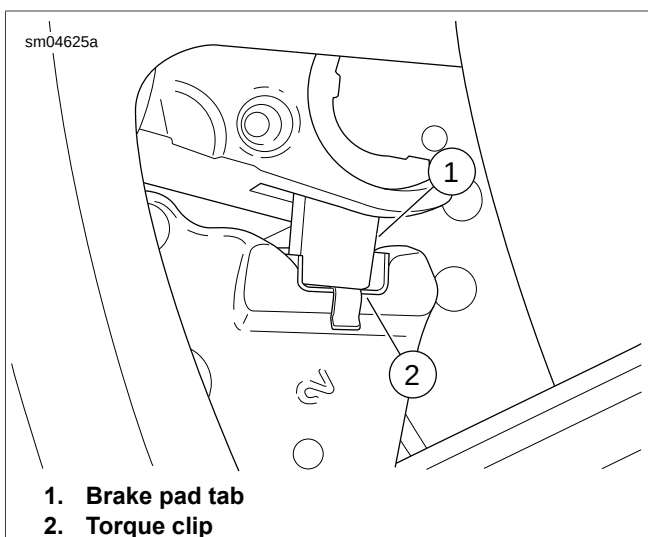

Figure 1-34. Rear Brake Pad Installation
11. See Figure 1-34. Install **new** brake pads and pad pin. Tab (1) must engage clip (2) in caliper housing. Tighten pad pin to 80-120 in-lbs (9.0-13.6 Nm).